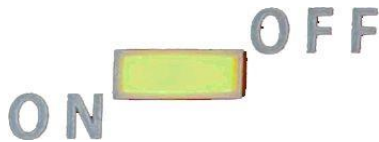

Fig.13
- 4- Close the door and press button “H” to turn ON the machine. (Fig.13)